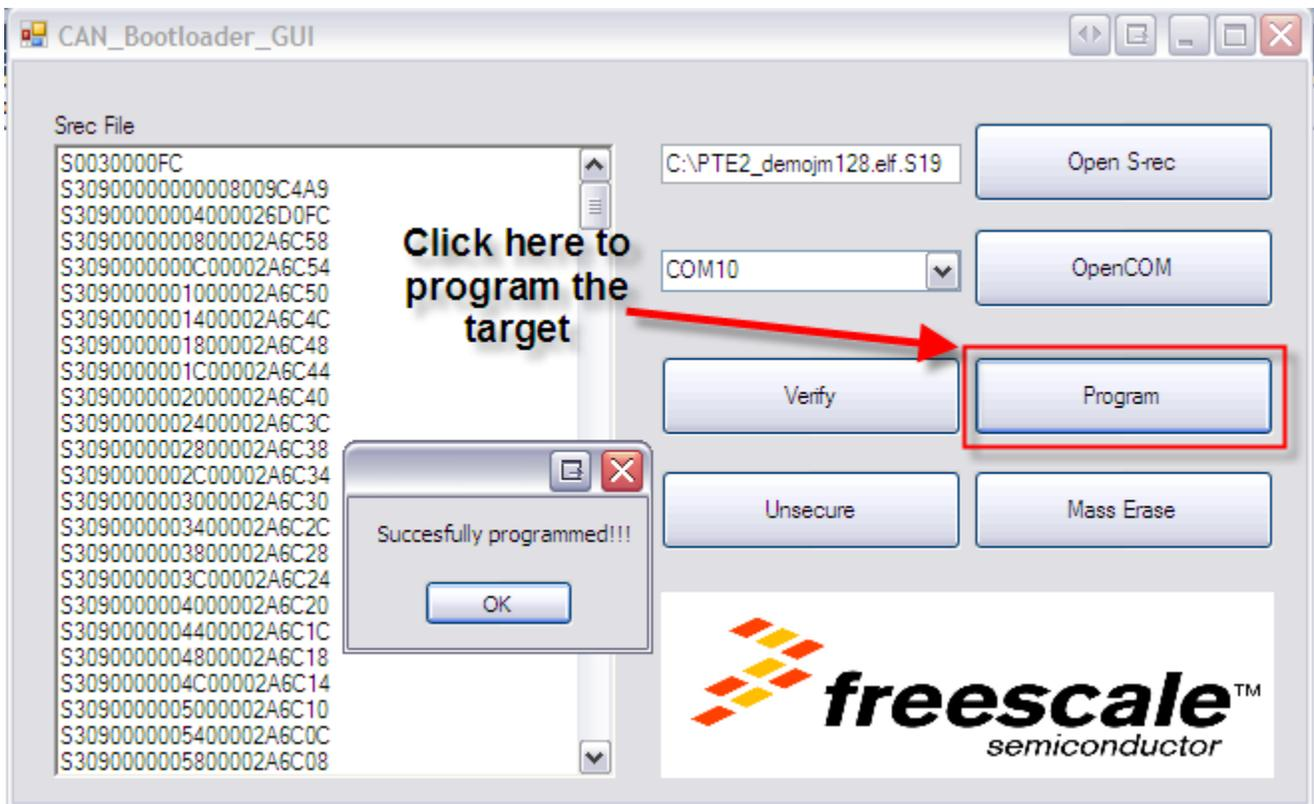

Figure 13. Flash target
9. Click the Program button to program the target and wait for the message "Successfully programmed" to appear. (Figure 13)